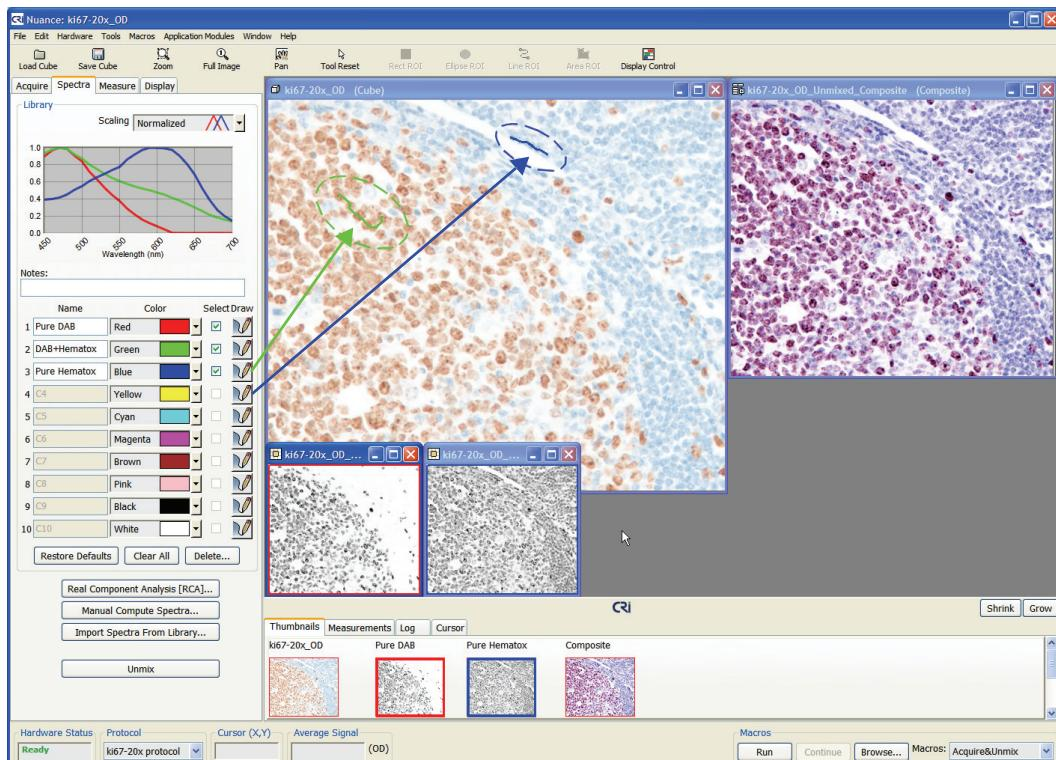

Figure 17. Unmixed Fluorescence Signals
7. In the **Library**, make sure that only the Blue and Red markers (representing both of the pure spectra) are selected. Click the **Unmix** button to generate the properly unmixed set of images (shown in Figure 17).